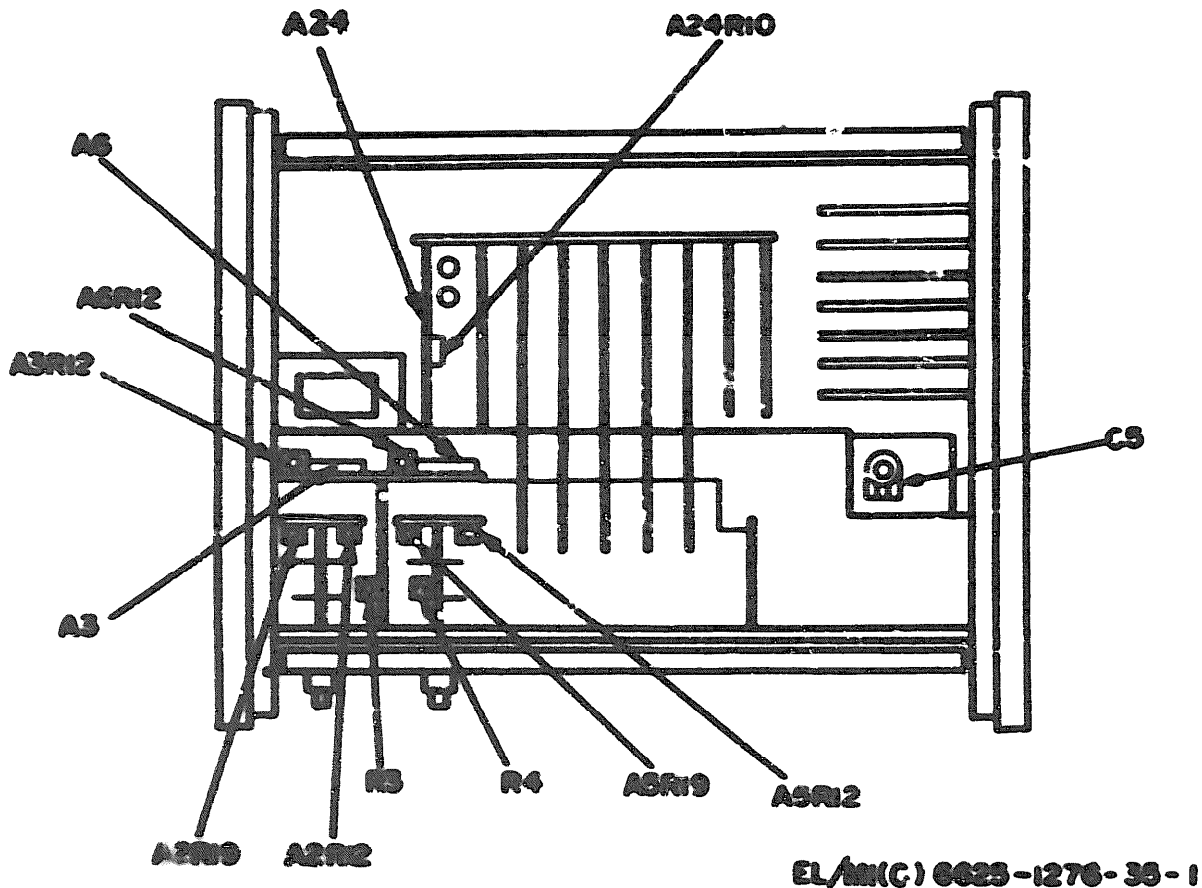

Figure 1. Electric counter, top view
- (1) Position test instrument controls as listed in (a) through (f) below:
- (2) Connect STD. FREQ. OUTPUT jack of test instrument to TEST INPUT jack of frequency difference meter (A3), using cable (B2).
- (3) Connect REF INPUT jack of frequency difference meter to 100 kHz jack of frequency standard (A4), using cable (B2).
- (4) Adjust C5 (Fig. 1) for no frequency difference (null) on frequency difference meter.
(1) Adjust R3 (fig. 1) for dc voltmeter indication of zero, ± 0.01 volt. (R)
(2) Adjust R4 (fig. 1) for dc voltmeter indication of zero, ± 0.01 volt. (R)
(3) Adjust test oscillator amplitude to 0.7 volt rms.
(4) Turn A2R12 (fig. 1) fully counterclockwise and then clockwise until stable trigger pulses appear on oscilloscope. (R)
(5) Turn A2R10 (fig. 1) fully clockwise and then counterclockwise until stable trigger pulses appear on oscilloscope. (R)
(6) Turn A2R12 (fig. 1) fully counterclockwise and then clockwise until stable trigger pulses appear on oscilloscope.
(3) Turn AST10 (fig. 1) fully clockwise and then counterclockwise until stable trigger points appear on oscilloscope.
(1) Connect dc voltmeter (A2) between pin 15 of A24 (fig. 1) and ground. Dc voltmeter indication will be between -34 and -36 volts. If not, perform b below. Record dc voltmeter indication.
(2) Vary autotransformer (A1) output from 105 to 125 volts and back to 115 volts. Dc voltmeter indication will remain within ± 0.2 volt of value recorded in (1) above.
b. Adjustments. Adjust A24R10 (fig. 1) for indication of -35 volts on dc voltmeter. (R).